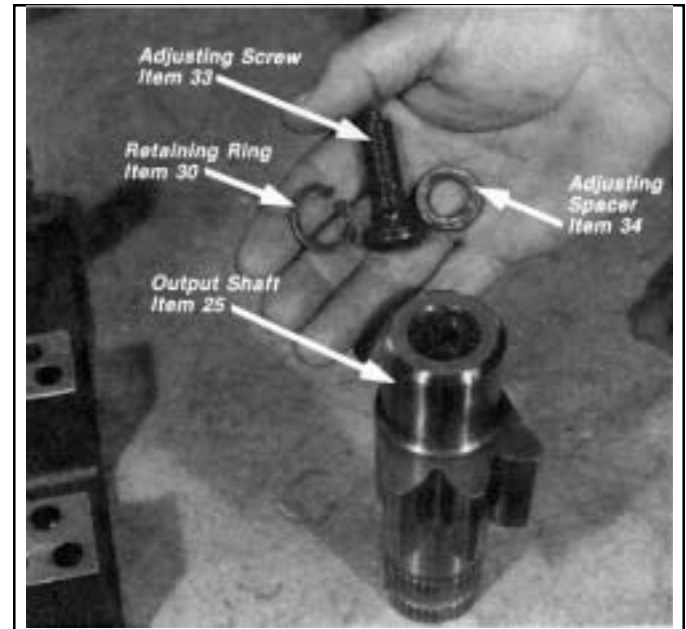

FIGURE 39 - OUTPUT SHAFT & ADJUSTING SCREW
27. Remove the retaining ring (30), the adjuster screw spacer (34) and the adjuster screw (33) from the output shaft (25). *Figure 39*